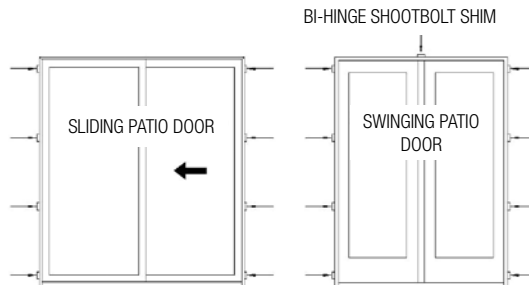

FIG. 12
- Start with a shim at each corner no more than 1" from the jamb corner. Add additional shims spaced evenly from the center of the unit. Make sure shims are spaced no more than 16" apart. Use flat shims or pairs of triangle shims to ensure the jamb does not twist. (Fig. 12)
- Additional shims are required at each lock point, head shootbolt and hinge location for all operating doors. (Fig. 12)